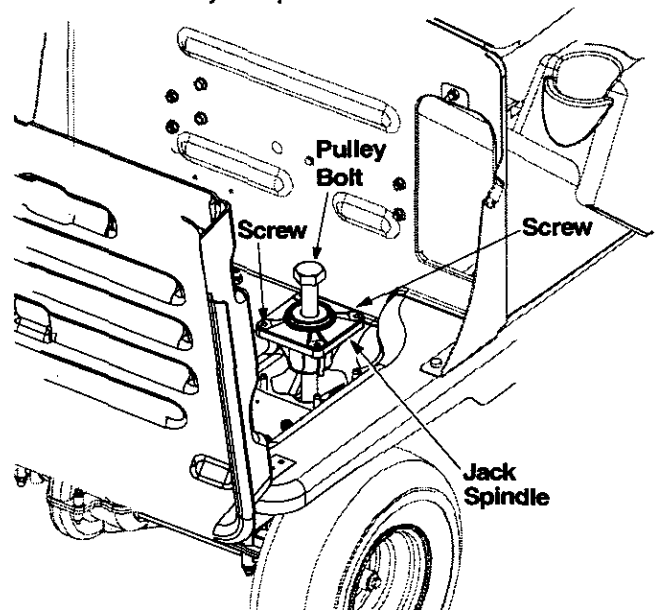

Figure 26
4. Loosen the jack spindle pulley bolt using a pair of wrenches. See Figure 26.
6. Remove four screws (only two called out in Figure 26) that secure jack spindle to the vehicle frame.